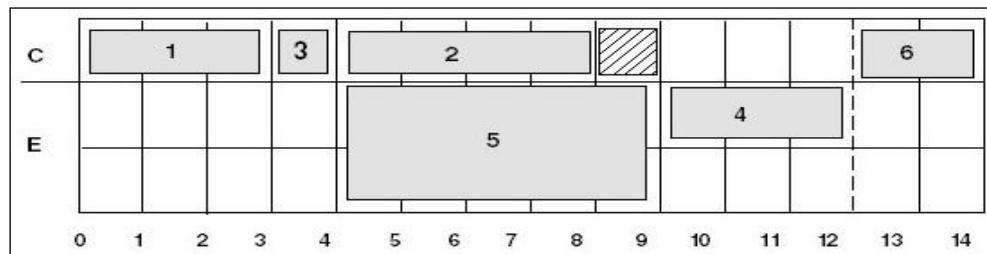

Figure 2: Loading Chart of Resources for C and E
- b) Assume only one Carpenter, and two Electricians are available, respectively. Using Figure 2, develop a loading chart of resources for Carpenters (C), and Electricians (E).